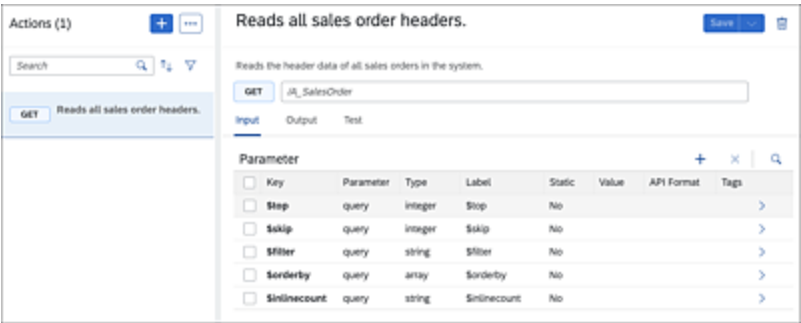

Figure 18.65 Configuring the Selected Actions
6. In the next step, you can select any **Input** and **Output** parameters, such as standard OData parameters (**\$skip**, **\$top**, etc.) or the OData entity set parameters, as shown in Figure 18.65.